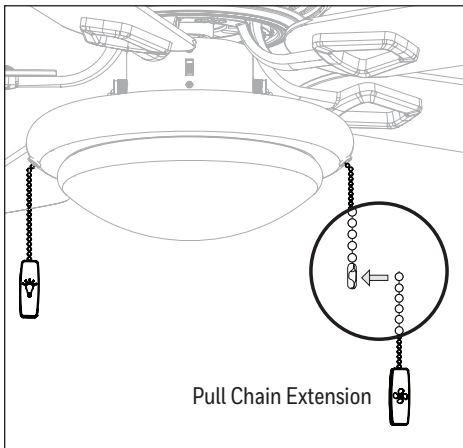

Figure 4.10
10. Attach pull chain extensions to the pull chains. **Note:** When facing the reverse switch, the fan pull chain is on the right and the light pull chain is on the left (Figure 4.10).